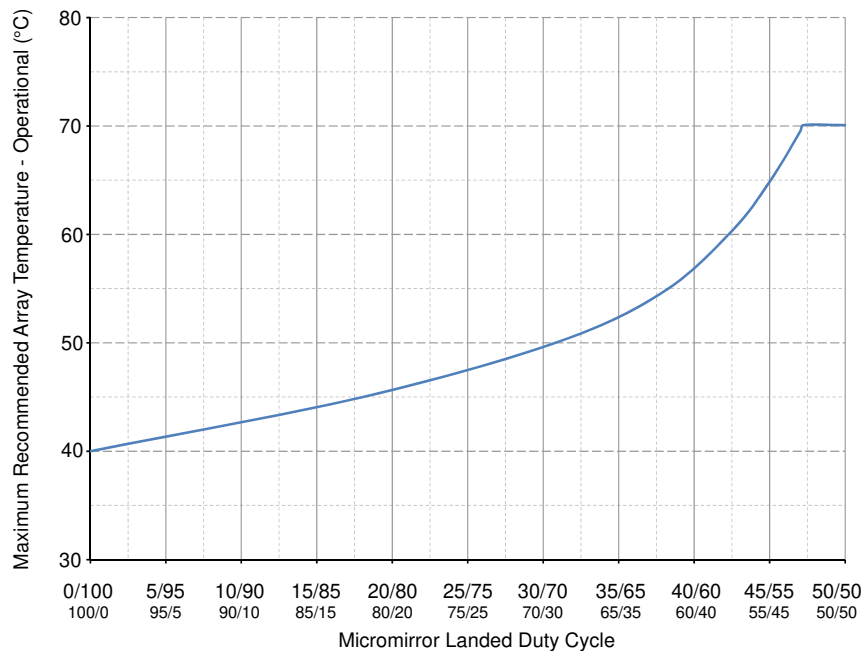
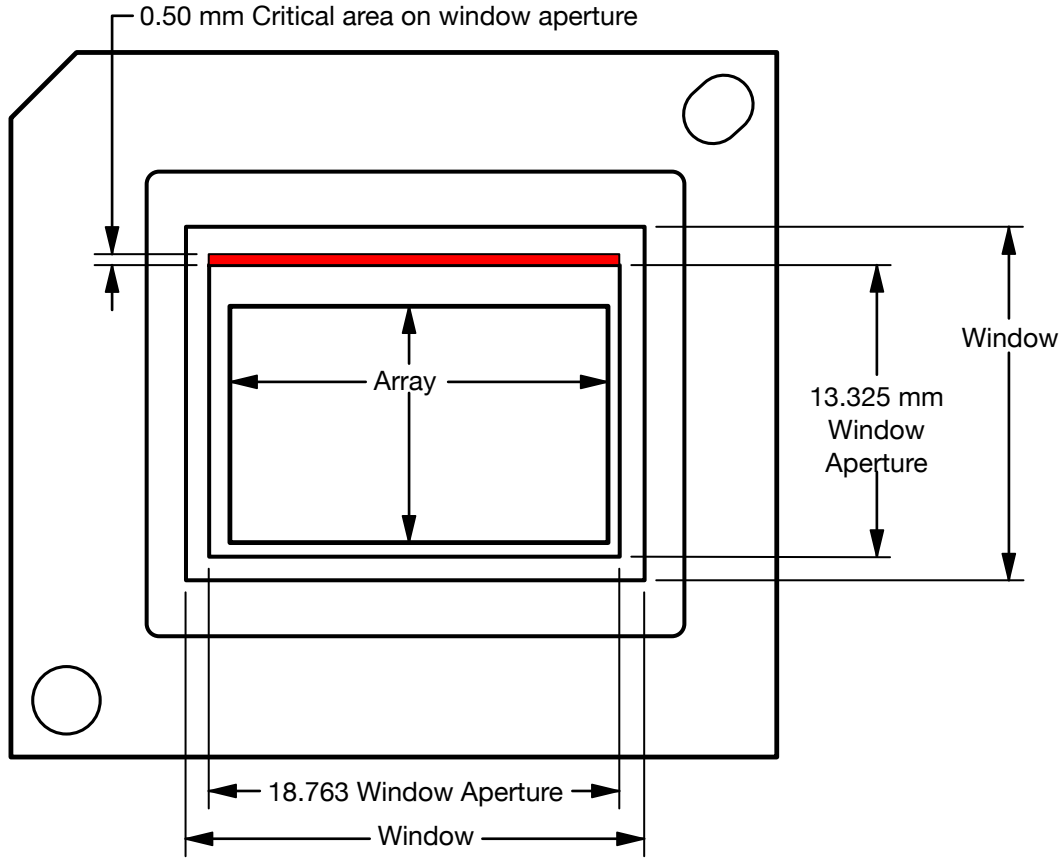

图 6-1. Maximum Recommended Array Temperature—Derating Curve
图 6-2. Illumination Overfill Diagram - Critical Area
- (9) Long-term is defined as the usable life of the device.
- (10) Per Figure 6-1, the maximum operational array temperature is derated based on the micromirror landed duty cycle that the DMD experiences in the end application. See Micromirror Landed-on/Landed-off Duty Cycle for a definition of micromirror landed duty cycle.
- (11) Short-term is the total cumulative time over the useful life of the device.
- (12) The average over time (including storage and operating) that the device is not in the elevated dew point temperature range.
- (13) Exposure to dew point temperatures in the elevated range during storage and operation is limited to less than a total cumulative time of CT_{ELR} .
- (14) Applies to region defined in Figure 6-2
- (15) The active area of the DMD is surrounded by an aperture on the inside of the DMD window surface that masks structures of the DMD device assembly from normal view. The aperture is sized to anticipate several optical conditions. Overfill light illuminating the area outside the active array can scatter and create adverse effects to the performance of an end application using the DMD. Minimizing the light flux incident outside the active array is a design requirement of the illumination optical system. Depending on the particular optical architecture and assembly tolerances of the optical system, the amount of overfill light on the outside of the active array may cause system performance degradation.
- (16) The maximum allowable optical power incident on the DMD is limited by the maximum optical power density for each wavelength range specified and the micromirror array temperature (T_{ARRAY}).